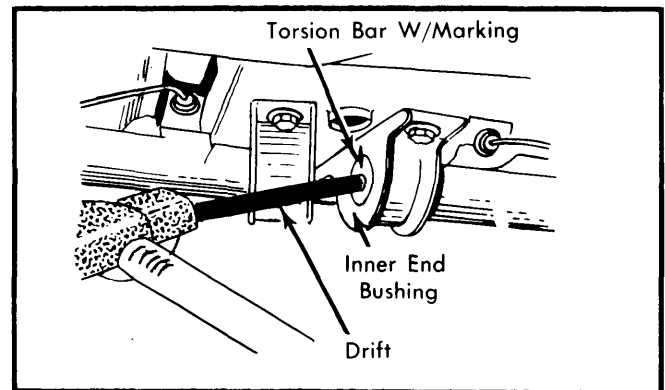

Fig. 2 View Showing Removal Procedure for Torsion Bar
5) Holding trailing arm so torsion bar does not twist, disengage serrations by tapping inner end surface of torsion bar See Fig. 2.